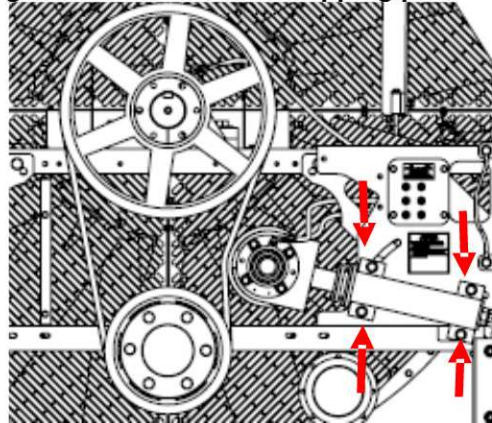

Figure 13: Tensioner in installed position
- If tensioner is received with tensioner in installed position, omit this step. Refer to **Figure 13** below.